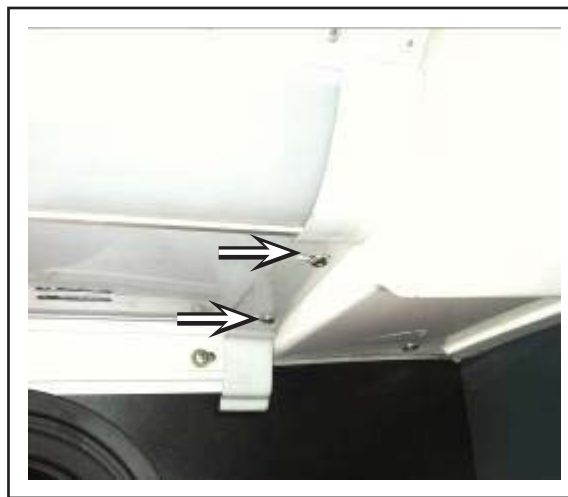

Figure 9 - Panel End Cap
- 2.6. Remove the two screws holding the end cap to the panel. Retain the hardware. See Figure 9.